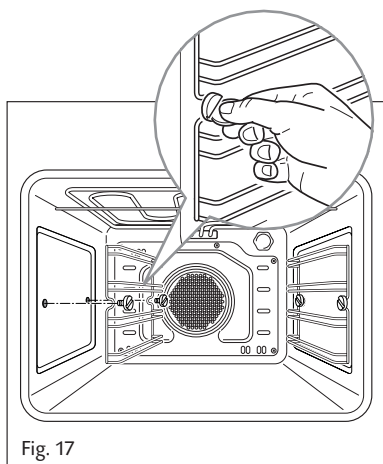

Fig. 17
- Assemble the wire racks to the oven walls using the 2 screws (Fig. 17).